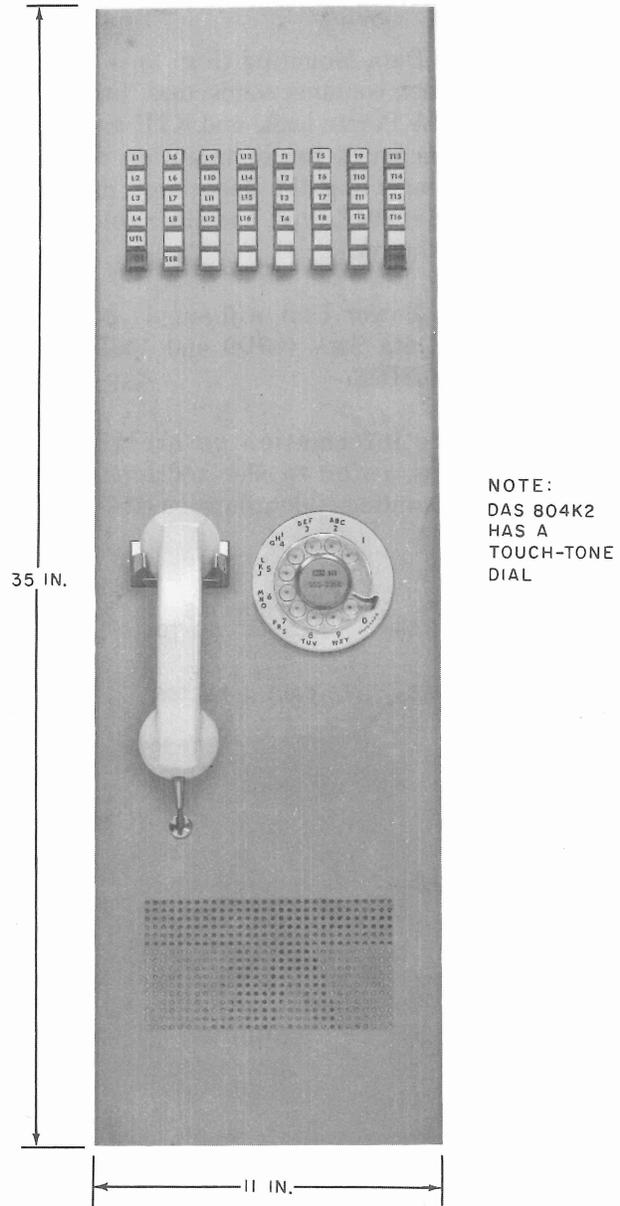

Fig. 4—Data Auxiliary Set 804K1—Front View
2.07 Data Auxiliary Set 804K-type (Fig. 4) is a 48-button panel-type control unit which provides control for as many as 16 Data Sets 403D-type. This set also provides normal telephone service and line control for testing and maintaining the receivers of the multiple data set station.
4.01 Data Auxiliary Set 804K-type (Fig. 4) is a control panel used in multiple data set installations. This auxiliary set mounts on the front of the KS-20093-L1 cabinet and provides regular telephone service in addition to the data, test, and talk mode controls. The auxiliary set contains a field of 48 keys which contain status indicating lamps.